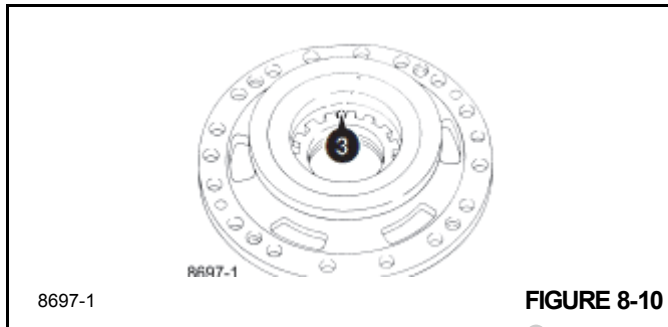

FIGURE 8-10
3. Drive out the differential side nut locking pin (Figure 8-10), to allow readjustment on assembly. Remove the other brake piston housing only if damaged, but remove its locking pin regardless (to allow side load adjustment on assembly).